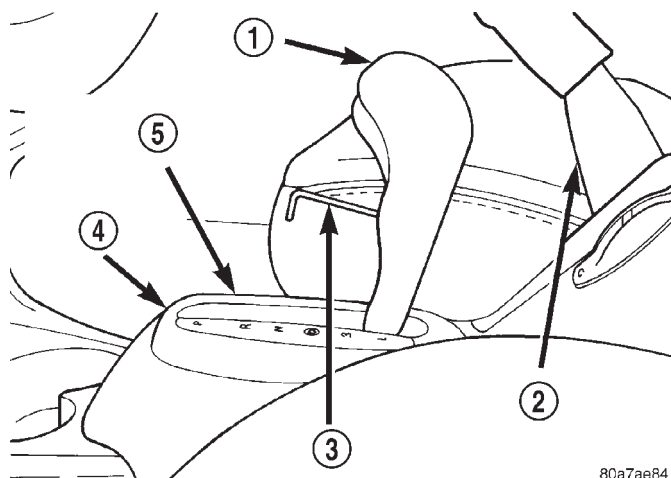

Fig. 122 Shift Knob Retaining Screw
(1) Remove the shift knob from the shifter. **The shift knob is attached to the shifter using a set screw (Fig. 122). Access to the set screw is from the front of the shift knob and is removed using a 2 mm allen wrench.**